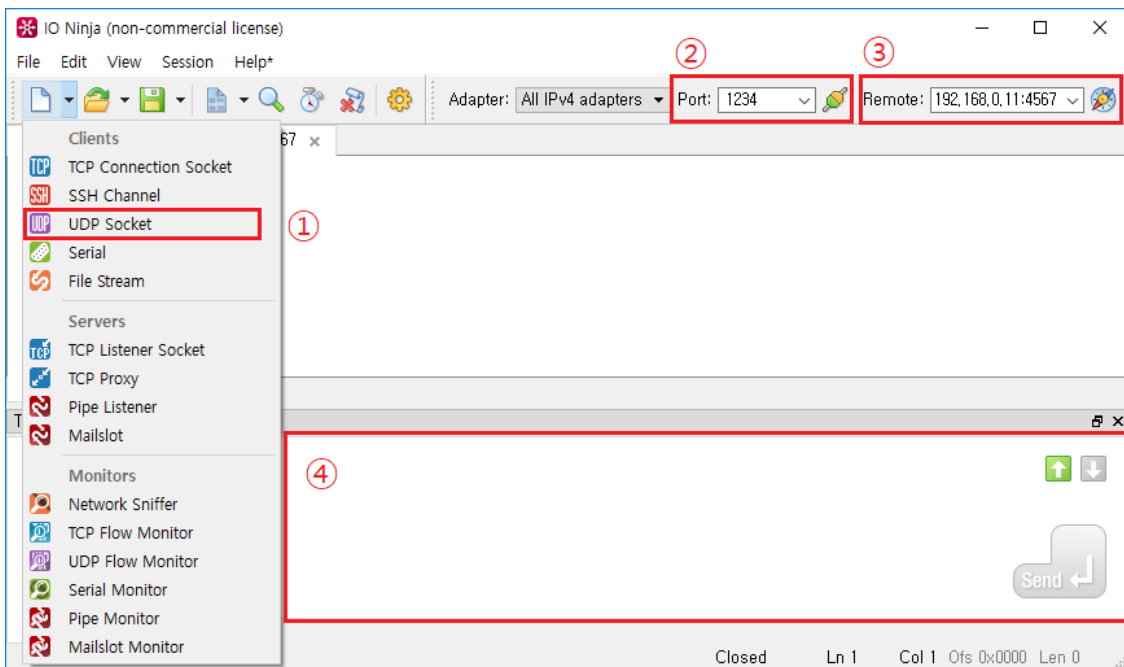

Figure 10: IO Ninja – UDP Socket Setting
- a. Select **UDP Socket** (1, Figure 10).
- b. Enter the port number to be used and click  to open the socket (2, Figure 10).
- c. Enter the IP address and port of the counterpart's UDP socket, click  and get ready for data transmission (3, Figure 10).
- d. Enter data and click **Send** to transmit (4, Figure 10).